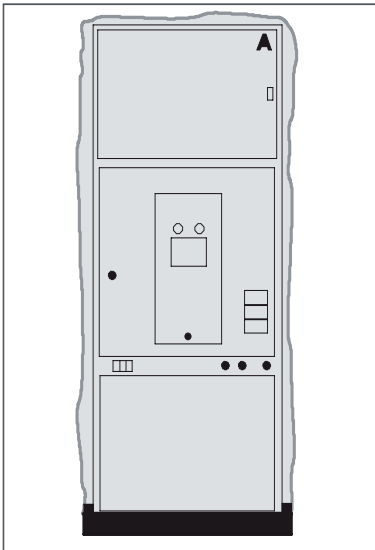

Fig. 3.1
- If the panels are transported exclusively on a lorry, they are fastened by wooden bars at the front and rear and packed in PE film (Fig. 3.1).